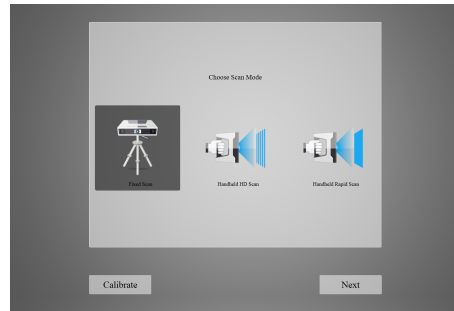
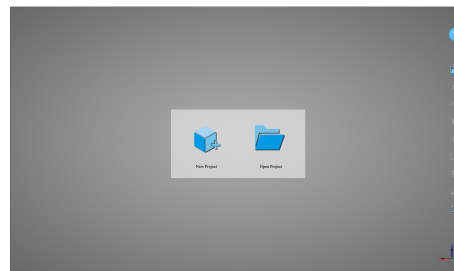

Figure 9: Select "Fixed Scan Mode"
Figure 10: Project Selection
7. Select "Fixed Scan Mode" (Figure 9) and select the project plan you desire. In most cases, you will create a new project. (Figure 10).